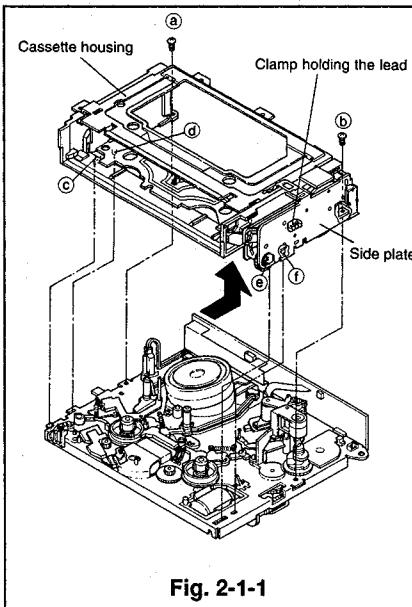

Fig. 2-1-1
- ① Set the VCR to the eject mode.
- ② Remove the top cover and the front panel.
- ③ Unfasten the clamp holding the lead of the loading motor, which is attached to the side plate of the cassette housing. Unscrew the two cassette housing fastening screws (Ⓐ and Ⓑ). Slowly raise the cassette housing in the direction shown by the arrow. (Refer to Fig. 2-1-1.)
- (Refer to Fig. 2-1-1.)